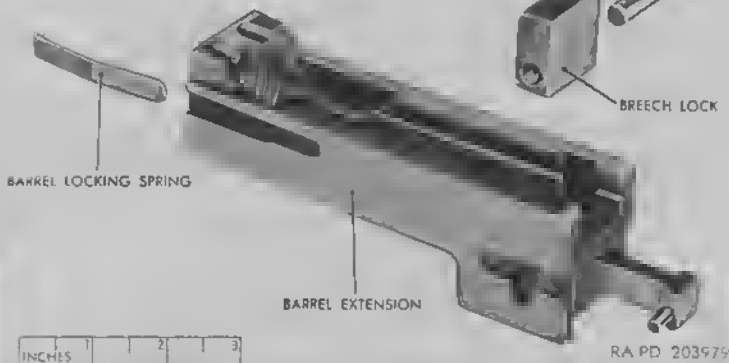

Figure 48. Barrel extension—exploded view.
- c. Push out the accelerator and breech lock pin assembly and remove the breech lock (fig. 48).